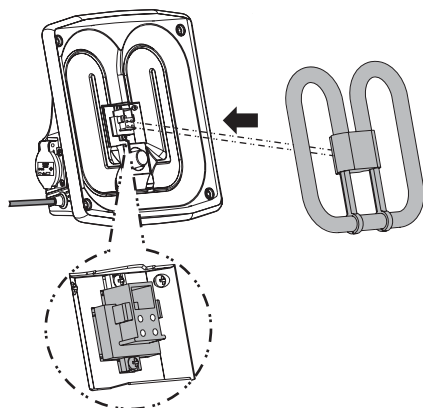

Fig. 16
5.1.4 Insert the new light. Make sure you are using a 38 W (55 W) light and place it in the holder. (Fig. 16).